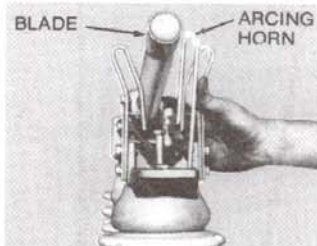

Figure 8 - Arcing horn adjustment.
(Fig. 8)
A. Arcing horns are shipped fully assembled and adjusted on the switch, but adjustment may become necessary. The arcing horn should be turned so that the curve is against the blade as shown in Figure 8.
B. Operate switch. Blade should make a light to firm sliding contact from the top of the curved horn to the fully closed position when the blade is rotated into the jaw contacts. Readjust the position of the arcing horn by bending as shown in Figure 8, until action is correct as described.